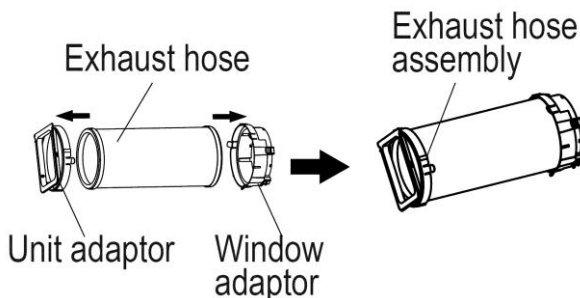

Fig. 1
1. Push fit the unit adaptor onto one end of the exhaust hose. A click will be heard when correctly fitted (fig.1).
2. Push fit the window adaptor onto the remaining end of the exhaust hose. A click will be heard when correctly fitted (fig.1).